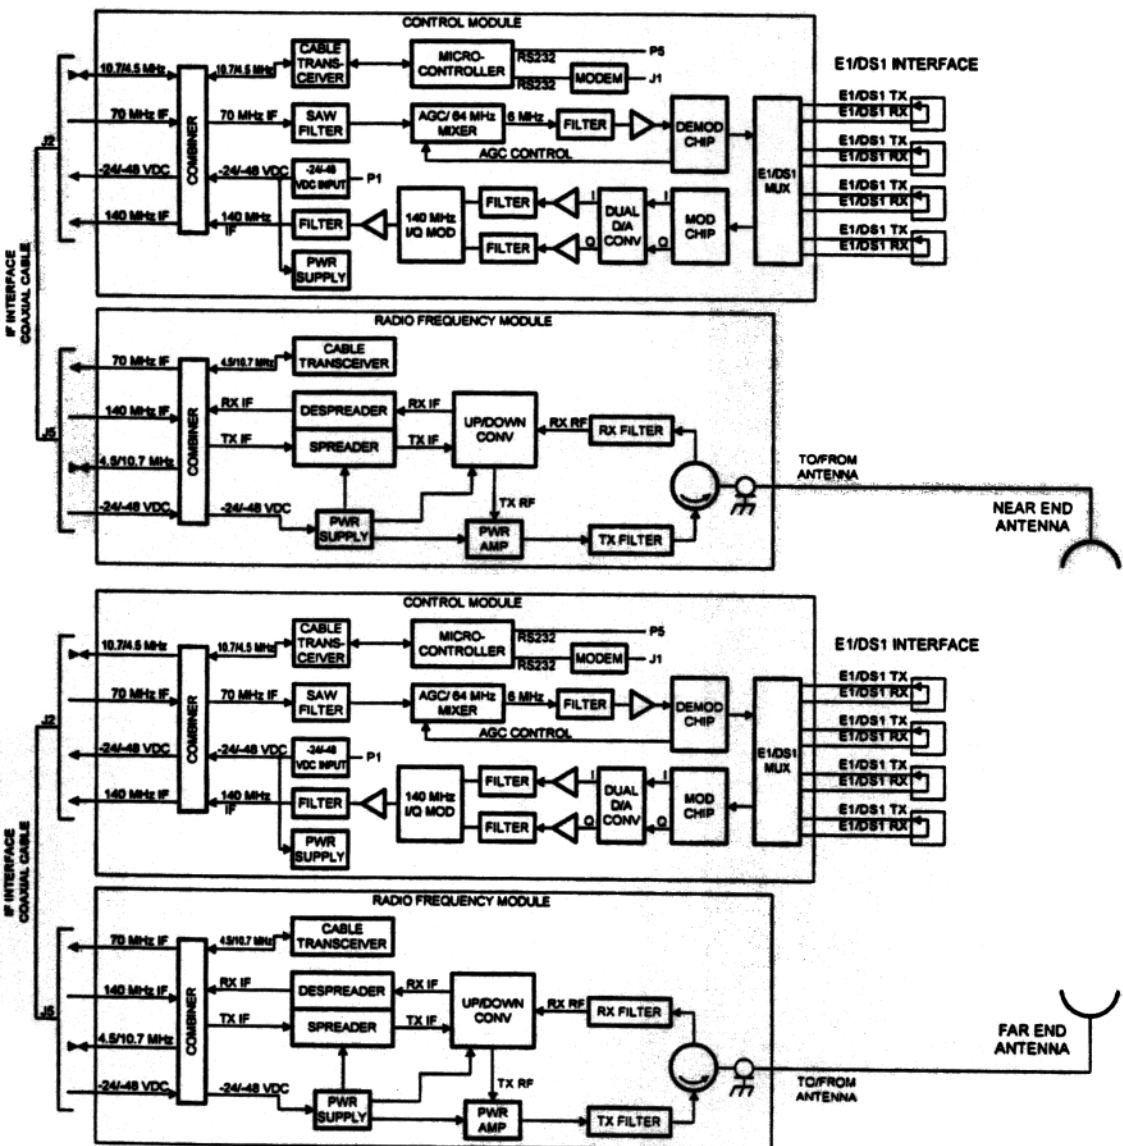

Figure 7-4. Model 9000 Radio Field Test #2
7.421 Test 2 verifies end-to-end performance of the Model 9000 radios. See Figure 7-4. This test loops the signal through the E1/DS1 multiplexers in both the near-end and far-end radios. This procedure does not test the E1 or DS1 interface at either end. (Refer to Test 1.)